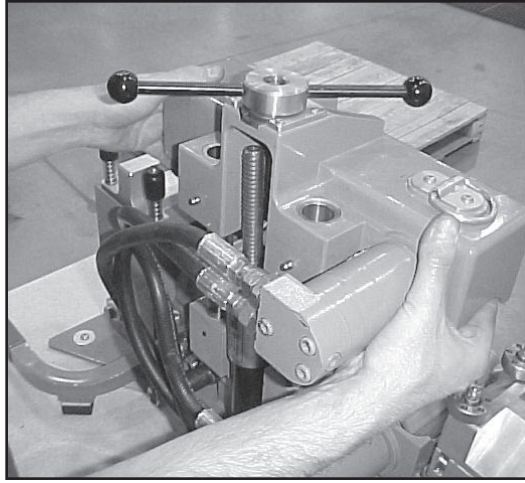

Figure 21
7. Replace housing onto guide posts (Figure 21)